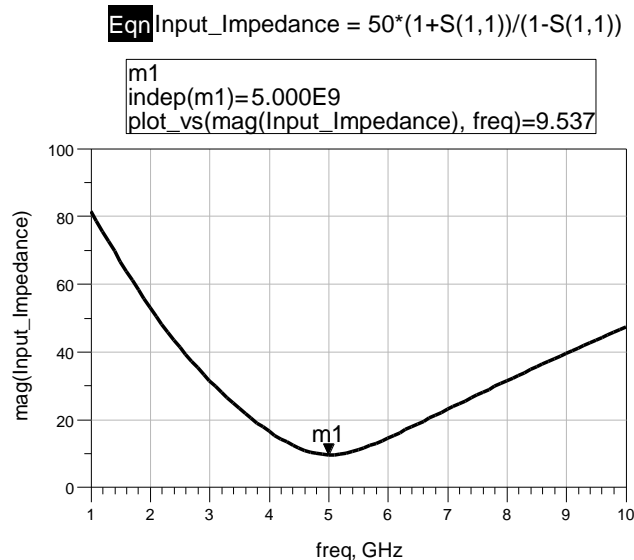

Figure 12: Impedance Equation and Rectangular Plot of Impedance versus Frequency
- (s) Insert an equation to calculate the impedance from the reflection coefficient (S_{11}) as shown in figure 12. Assume the characteristic impedance is 50 Ω . Use the **Rectangular Plot** to generate the magnitude versus frequency plot as shown in figure 12, and insert a **Marker** (m1) in the plot and obtain its reading.